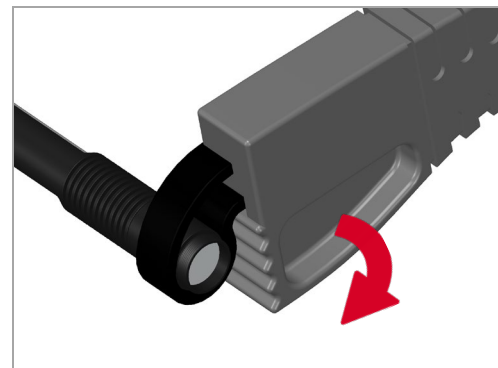

Figure 3. Install the New Collimator
2. Carefully thread the collimator to the wand by hand and tighten using the strap wrench in a clockwise direction. Snugly install the new collimator (Figure 3).